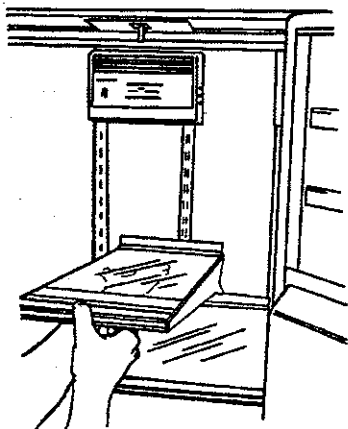

Figure 52
- a. Remove cantilever shelf by lifting upward at back edge of shelf near metal track to loosen shelf hooks. See Figure 52.